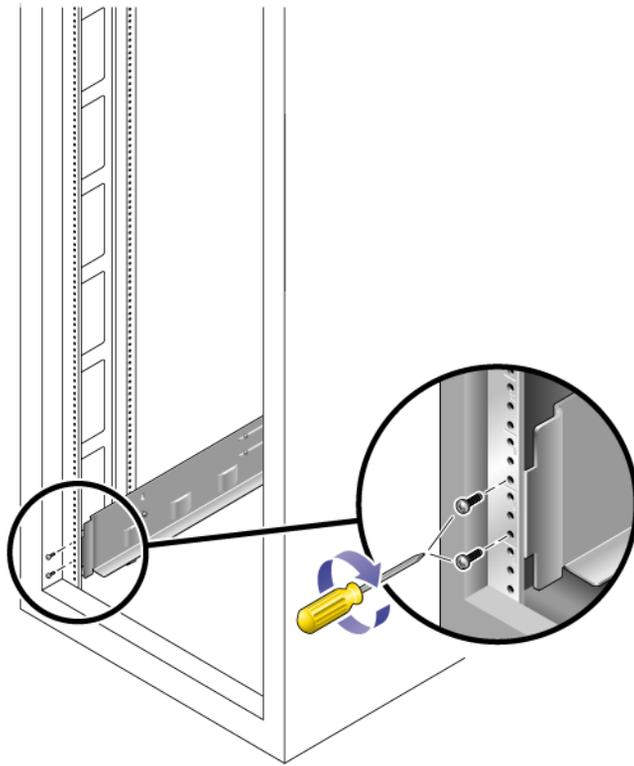

FIGURE 2-9 Inserting Screws in the Lower Side Mounting Holes of the Cabinet
4. Using the #2 Phillips screwdriver, insert two 10-32 screws in the lower side mounting holes for the rail (FIGURE 2-9).